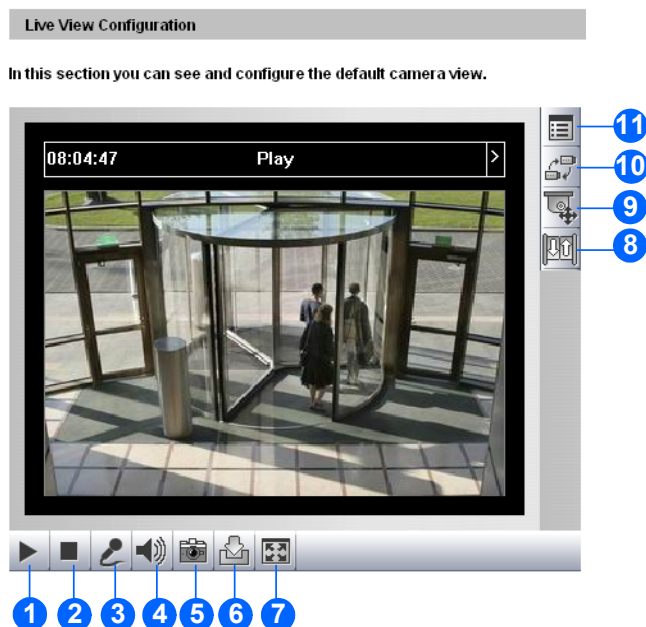

Figure 3-3
1. Click the **Snapshot** button (No. 5, Figure 3-3). The Save As dialog box appears.
1. Click the **File Save** button (No. 6, Figure 3-3). The Save As dialog box appears.
4. To stop recording, click the **Stop** button (No. 2, Figure 3-3).
- Click the **Full Screen** button (No. 7, Figure 3-3). Right-click the full screen to have the options of **PIP** and **PAP**.
To configure this function, click the **Show System Menu** button (No. 11, Figure 3-3), and select **Alarm Notify**. This dialog box appears.
You can enable the microphone and speaker for two-way audio communication and adjust the audio volume. To change audio configuration, click the **Show System Menu** button (No. 11, Figure 3-3), and select **Video and Audio Configuration**.
You can upgrade firmware over the Internet. Click the **Show System Menu** button (No. 11, Figure 3-3), and select **Remote Config**. The Remote Config dialog box will appear.
To display the camera name on the image, click the **Show System Menu** button (No. 11, Figure 3-3), and select **Show Camera Name**.
To enhance the image quality of live video, click the **Show System Menu** button (No. 11, Figure 3-3), and select **Image Enhance**. This dialog box appears.
To open the PTZ control panel, click the **PTZ Control** button (No. 9, Figure 3-3) and select **PTZ Control Panel**. Different PTZ devices have different functions, so the features included in the **Option** button may vary.
- To access this feature, click the **PTZ Control** button (No. 9, Figure 3-3) and select **Visual PTZ**.